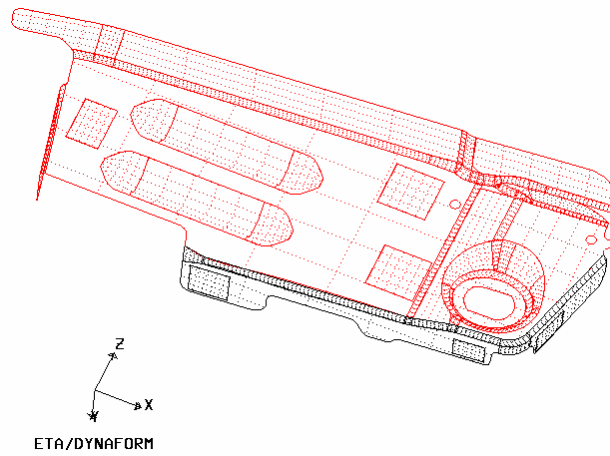

Figure 6.1.2 Select Flange Surface
- Once the function is selected, eta/DYNAFORM opens the SELECTED SURFACE dialog box to select flange surfaces to be unfolded. Refer to Figure 6.1.2 for typical surfaces with the